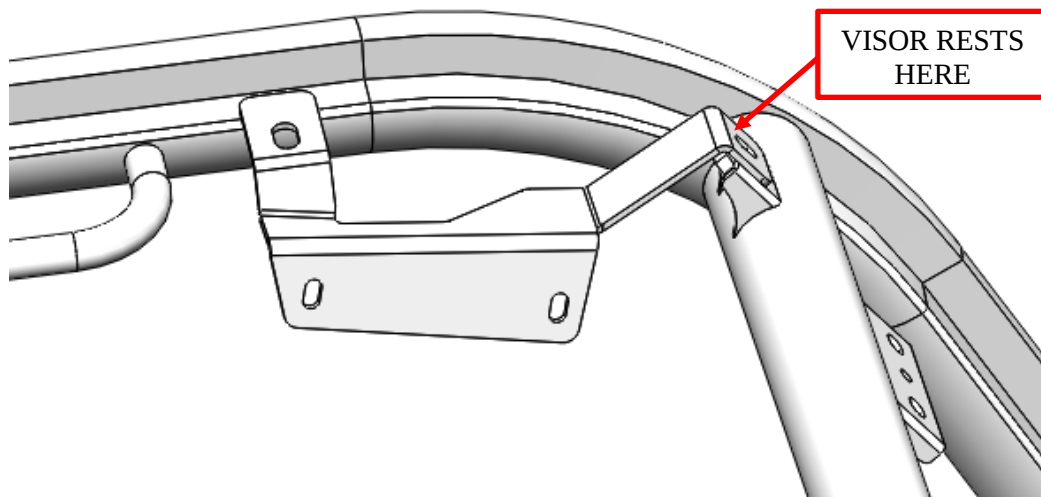

Figure 4: Mounting location of the *Audio Mini* bracket.
3. Place the driver's side bracket between the roll cage and front visor. Use the factory bolt from Step 2 to loosely tighten the bracket but allow for adjustment. It will be fully secured in the following steps. Verify correct orientation of the mounting bracket. See Figure 4. **Note: Driver side shown. (Passenger side similar)**